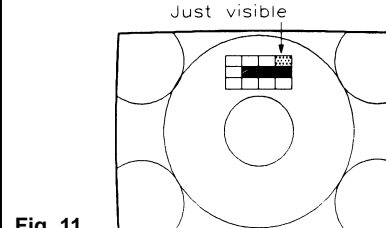

Fig.11
- 3. Adjust SUB-BRIGHTNESS (VR305) to get NINE step of the grey scale just illuminate in monoscope pattern as shown in Fig 11.